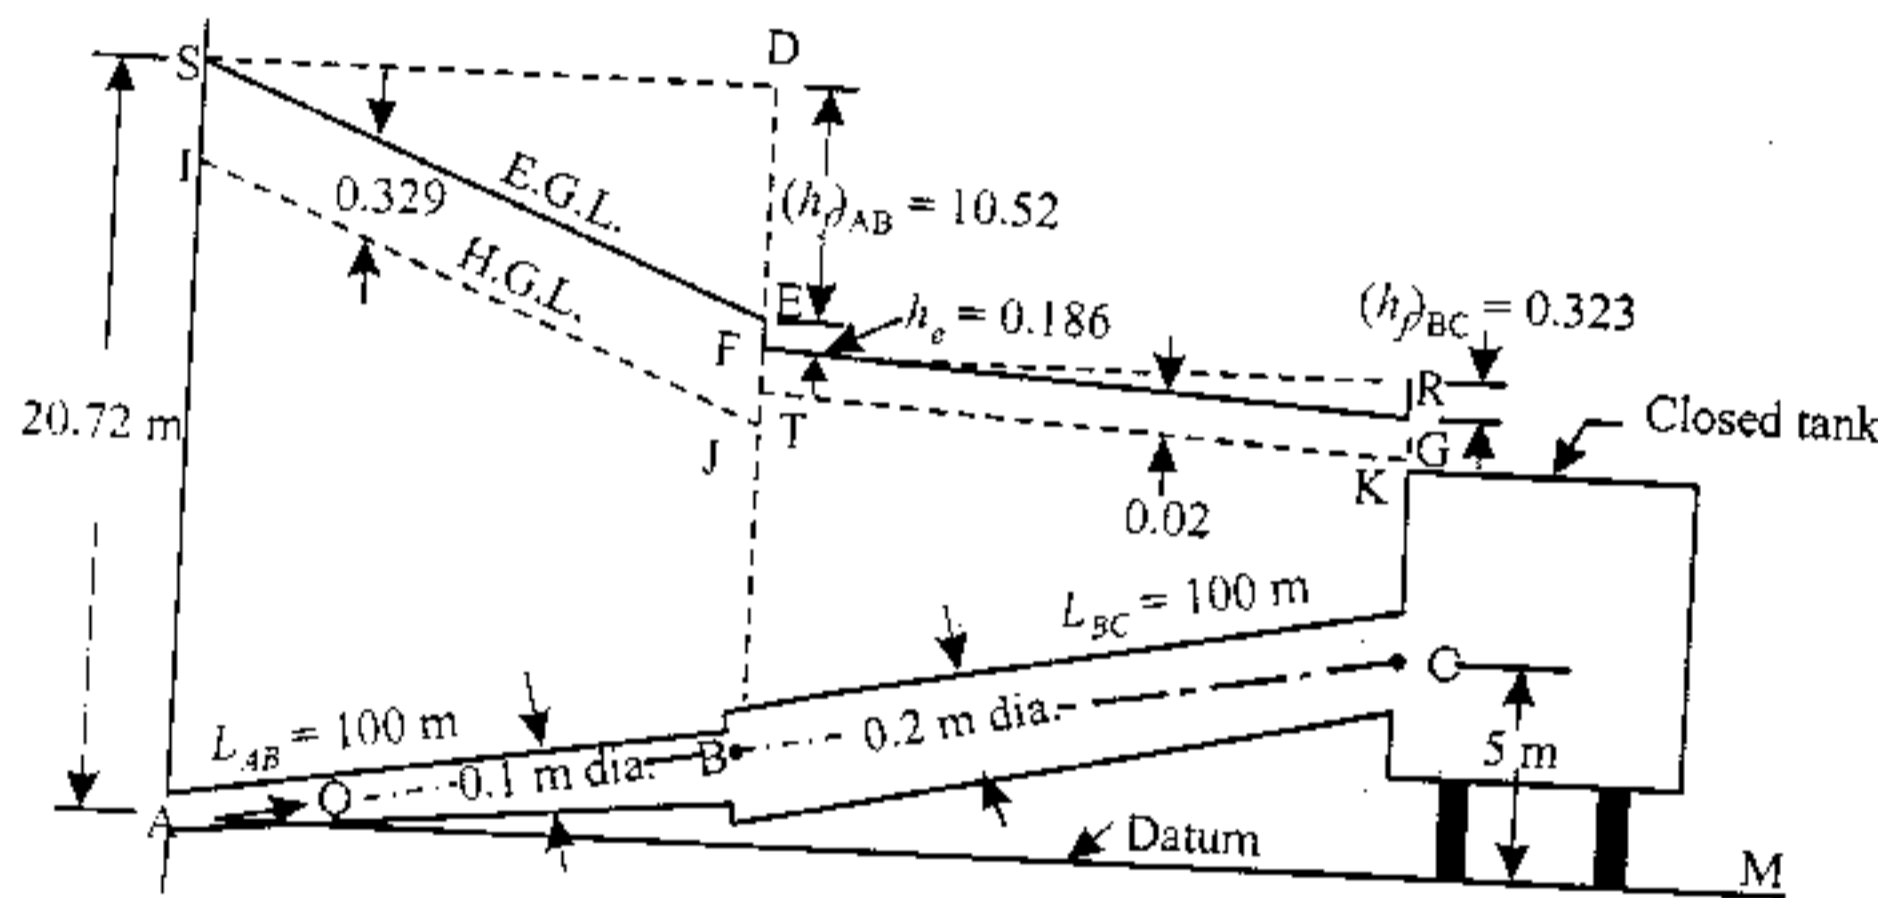

Fig. 12.14
- Draw a horizontal line *AM* as shown in Fig. 12.14.